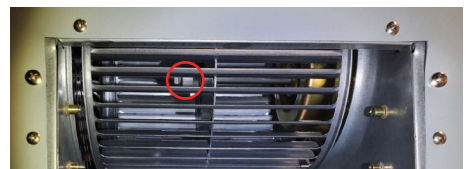

Figure 9 Fixing Screw
Too much noise on the highest speed	<ul style="list-style-type: none"> Remove the top vent duct and check if the air damper blades are stuck. (Refer to Page 13 Figure 9 for detail steps.) Remove the top vent adapter and check if the fan wheel has come in contact with the metal chassis or the fan wheel is unbalanced / out of shape. Check if the fan wheel fixing screw is tighten on the motor shaft. (Refer to Page 13 Figure 9 for the location of the fixing screw.)
- Remove the fixing screw with a bolt wrench. (**Figure 9**)